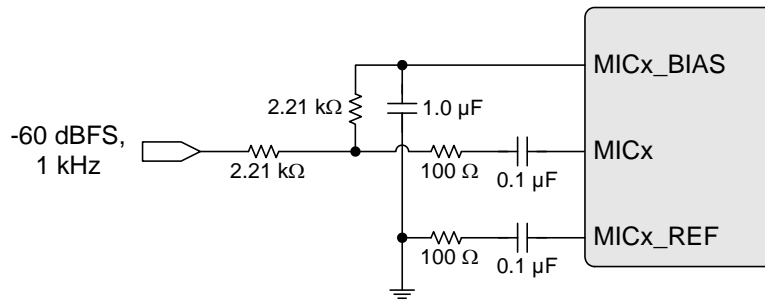

Figure 2. MICx Dynamic Range Test Configuration
12. Includes noise from MICx_BIAS output through series 2.21 kΩ series resistor to MICx. Refer to Figure 2 below. Input signal is -60 dB down from corresponding full-scale voltage.